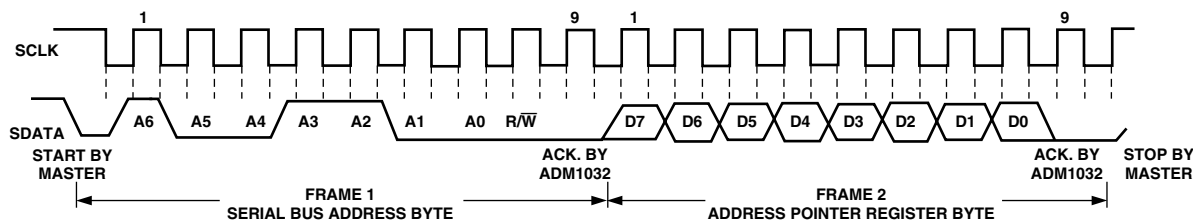

Figure 3b. Writing to the Address Pointer Register Only
- If the ADM1032's Address Pointer Register value is unknown or not the desired value, it is first necessary to set it to the correct value before data can be read from the desired data register. This is done by performing a write to the ADM1032 as before, but only the data byte containing the register read address is sent, as data is not to be written to the register. This is shown in Figure 3b.
- If the Address Pointer Register is known to be already at the desired address, data can be read from the corresponding data register without first writing to the Address Pointer Register and Figure 3b can be omitted.